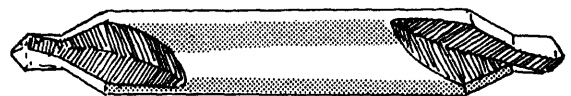

Figure 5-32.—Combined drill and countersink (center drill).
4. Insert a center drill (fig. 5-32) in the spindle and make a center hole to aid in starting the drill. This is not necessary on small drills on which the dead center of the drill is smaller than the center-punch mark, but on large drills it will prevent the drill from “walking” away from the center-punch mark. This operation is especially important in drilling holes on curved surfaces.